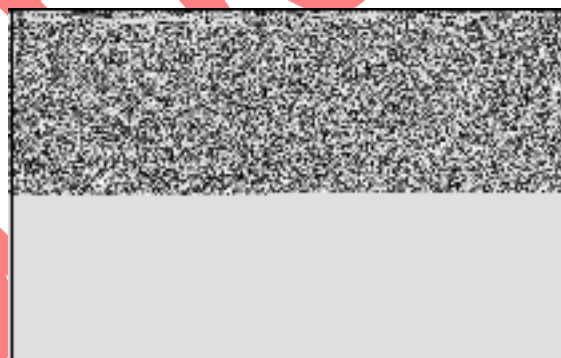

Fig. 120
Insert the inlet needle (A) into the slot on the float ([B] Fig. 120).